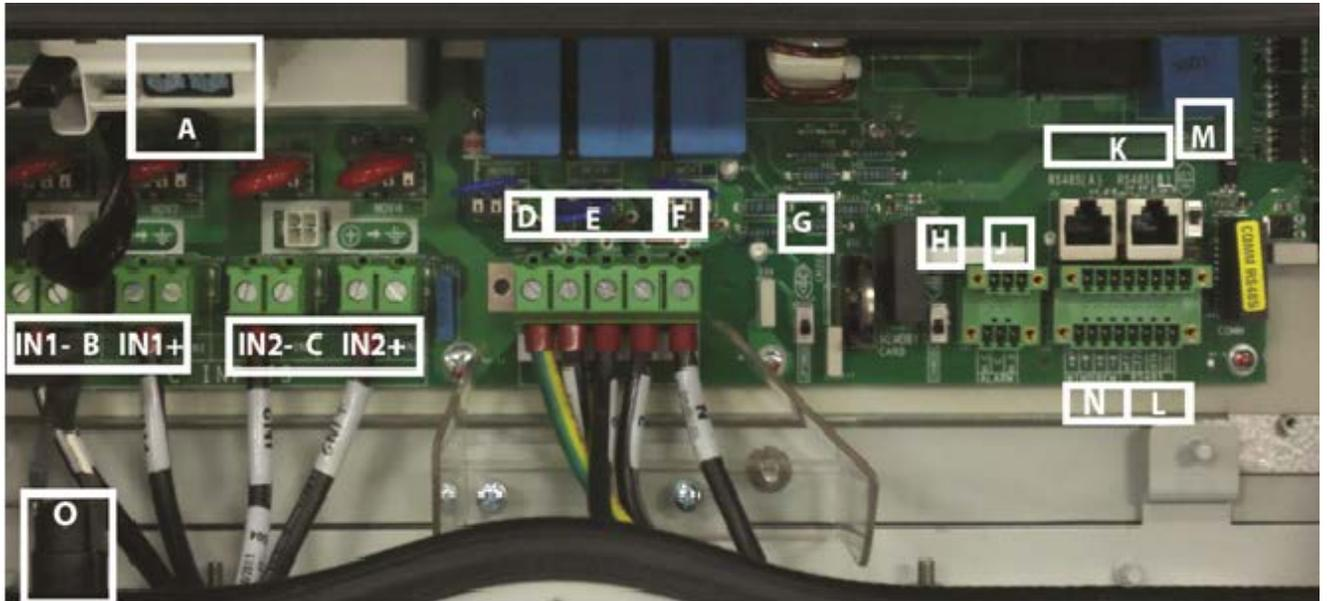

Figure 1.04 - Wiring Connection Details for PVI-10/12-I-OUTD-US/CAN-XXX
- Relevant wiring connections are shown in Figure 1.03 and Figure 1.04.